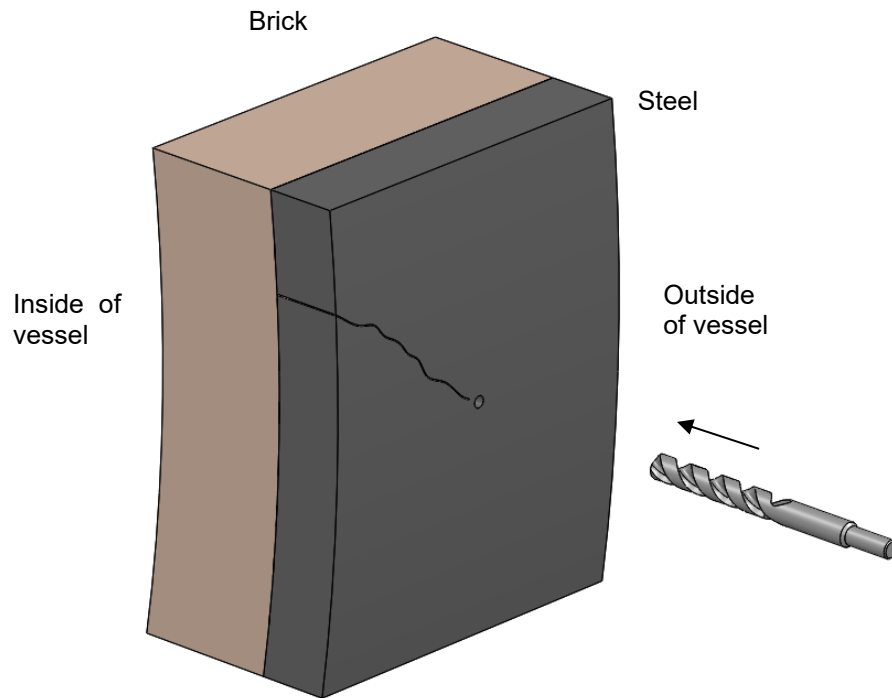

Figure 6.2-3
3. Using the Starting Drill BTSD-1533-B-0, drill hole through steel until the point goes just into brick as shown in Figure 6.2-3.